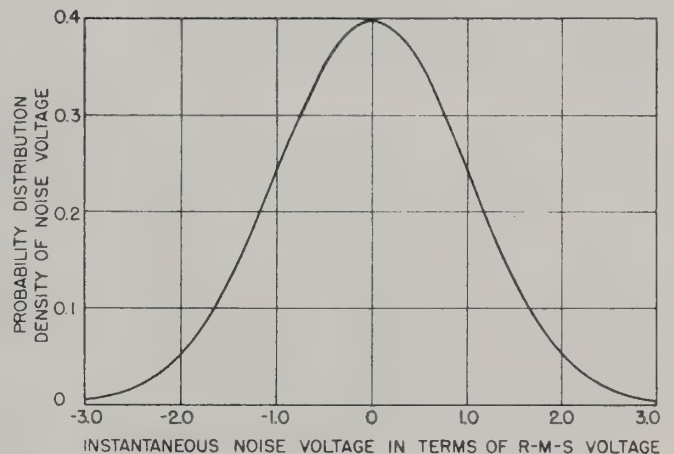

Figure 5.
In Figure 5, the probability that a voltage between two limits will be observed is given by the area under the normal curve between those two limits. Ex-
2.4 DEPARTURES OF OUTPUT FROM TRUE RANDOMNESS. The curve in Figure 5 is a theoretical curve and is symmetrical about the origin. The noise of the generator has a similar distribution, but is somewhat asymmetrical because of the gas tube. In addition, the inherent amplitude limitations of the vacuum-tube amplifiers limit the distribution curve at high levels. Clipping is most serious on the 500-kc and 5-Mc ranges. When a narrow-band filter is used at the output, the distribution becomes more nearly random.